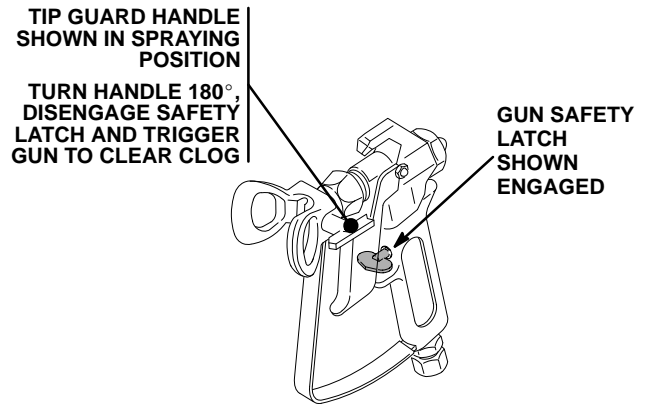

Fig 13–1
2. If the spray tip does clog, release the gun trigger, engage the gun safety latch, and rotate the RAC IV handle 180°. See Fig 13–1.